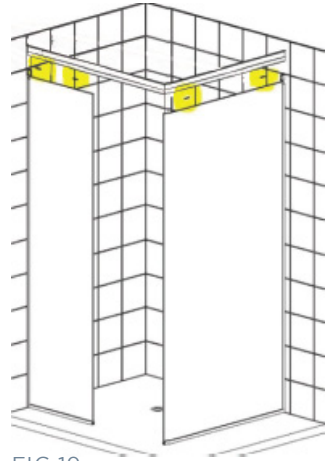

FIG.19
- Use 2mm setting blocks on top of fixed glass panels to prevent the sliding door track metal directly contacting the glass (FIG 19). Dry fit and position on top of glass.